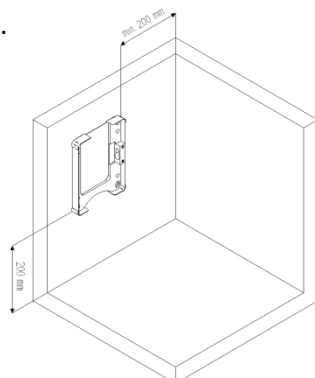

figure 1.2-g
- In Figure 1.2-g the recommended mounting parts of the anti-theft protection strong are indicated. (200 mm from the floor, as well as min. 200 mm from the wall)